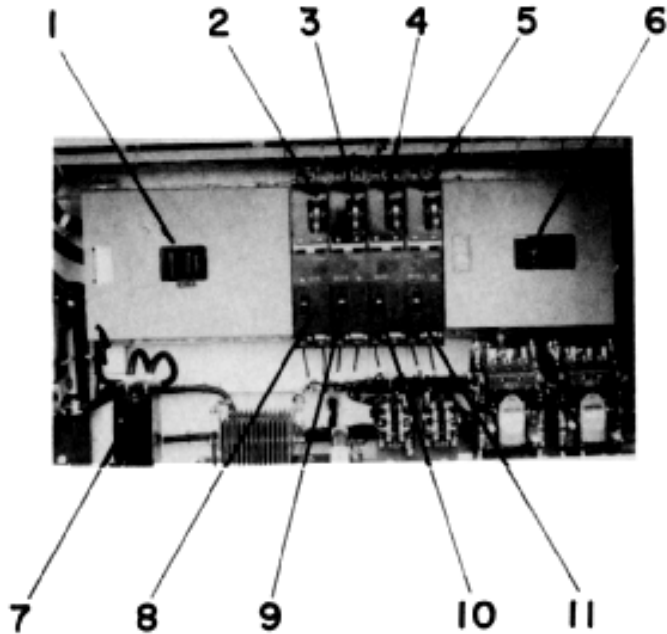

FIG. 5
All auxiliary circuits are protected by Transformer Main Auxiliary Breaker "TFB" (1) Fig. 5.
Transformer Auxiliary Breaker "TFB" (1) Fig. 5.	ON
DC Motor Breaker for Alternator "DCB" (6) Fig. 5	ON
Motor Alternator DC Field Breaker "DCFB" (9) Fig. 5.	ON
- 7. In Line Regulator Breaker "LRB" (7) Fig. 5 ON
- 1. Floor Heat Breaker "FHB1" (2) Fig. 5 ON
- 2. Floor Heat Breaker "FHB2" (3) Fig. 5 ON
- 3. Overhead Heat Breaker "EHB1" (4) Fig. 5 ON
- 4. Overhead Heat Breaker "EHB2" (5) Fig. 5 ON
- 5. Cab Heater Breaker "CHB" (10) Fig. 5 ON
- 6. Water Heater Breaker "WHB1-2" (11) Fig. 5 ON